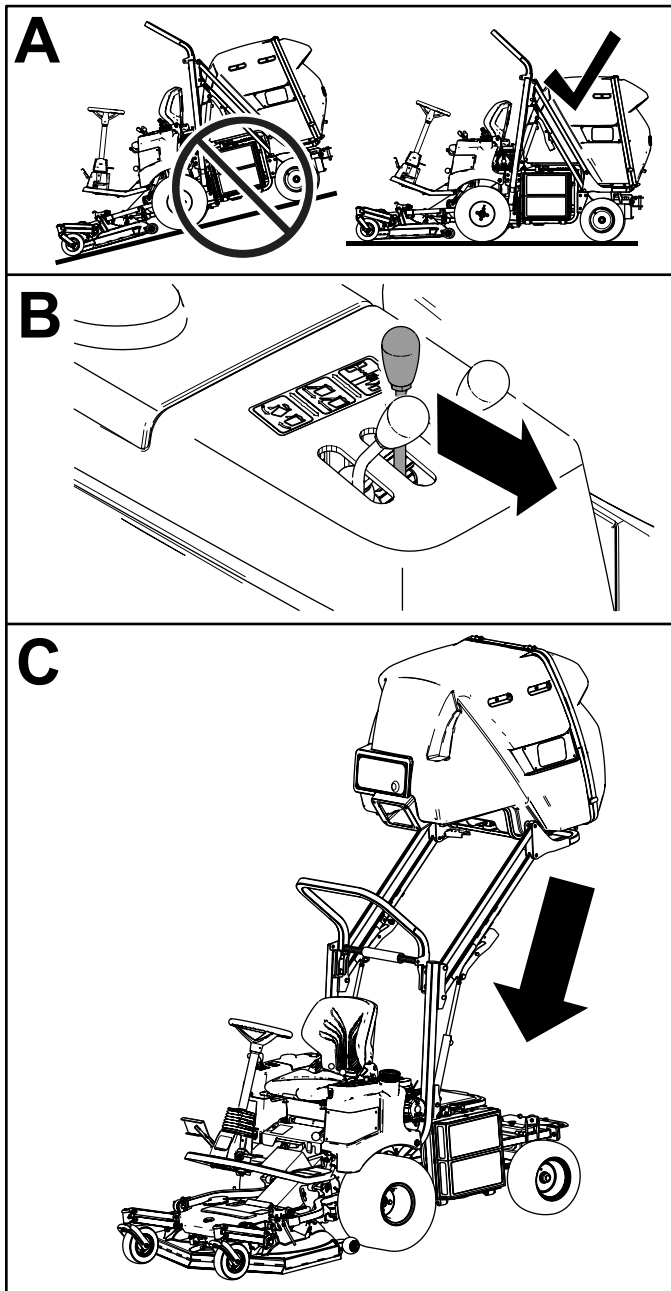

Figure 24
2. Move the hopper lift lever forward to lower the hopper (Figure 24).